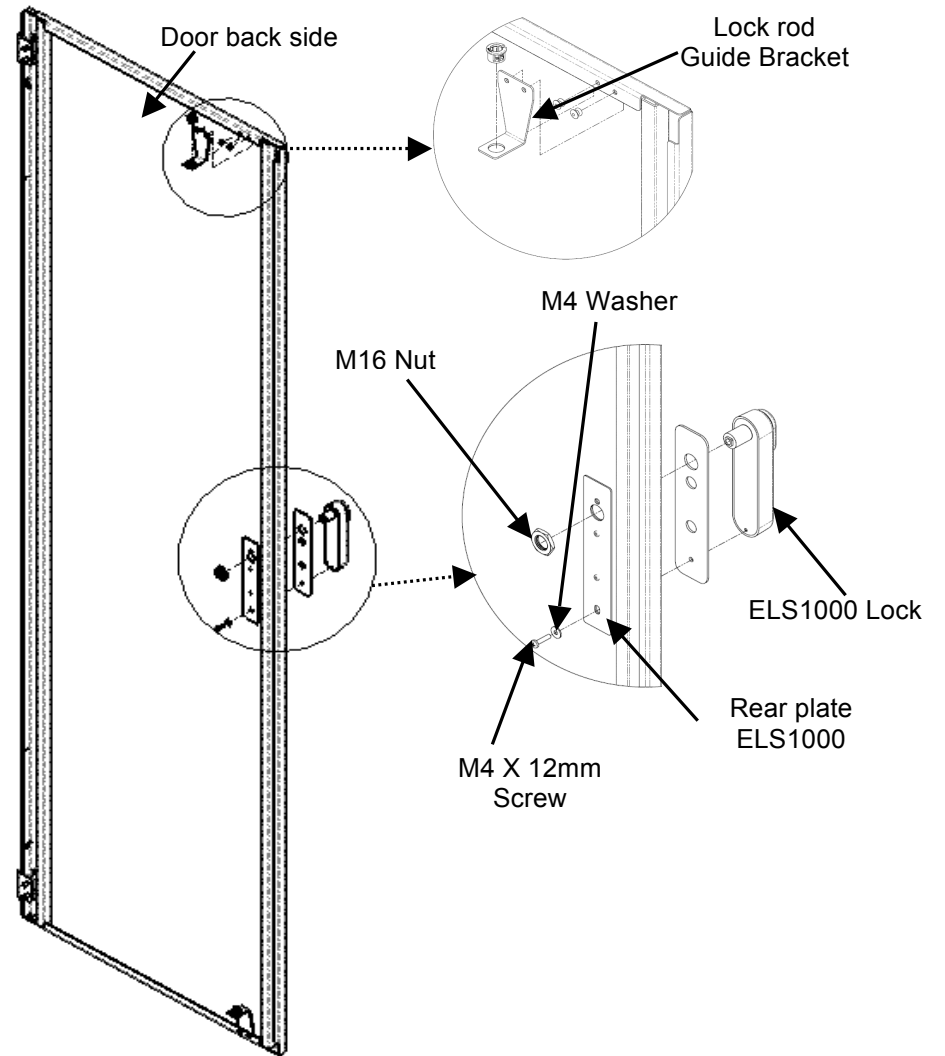

Fig. 2
2. Install lock rod guide brackets on top and bottom of rear door. Do not insert the lock rods yet (Fig. 2).
3. Position the ELS1000 lock with spindle orientation up and Front plate on the door over the latch cut-out and fasten with Rear plate using M4X12mm screws and M4 washer (Fig. 2).
4. Place the M16 Nut over the lock barrel and tighten it (Fig. 2).